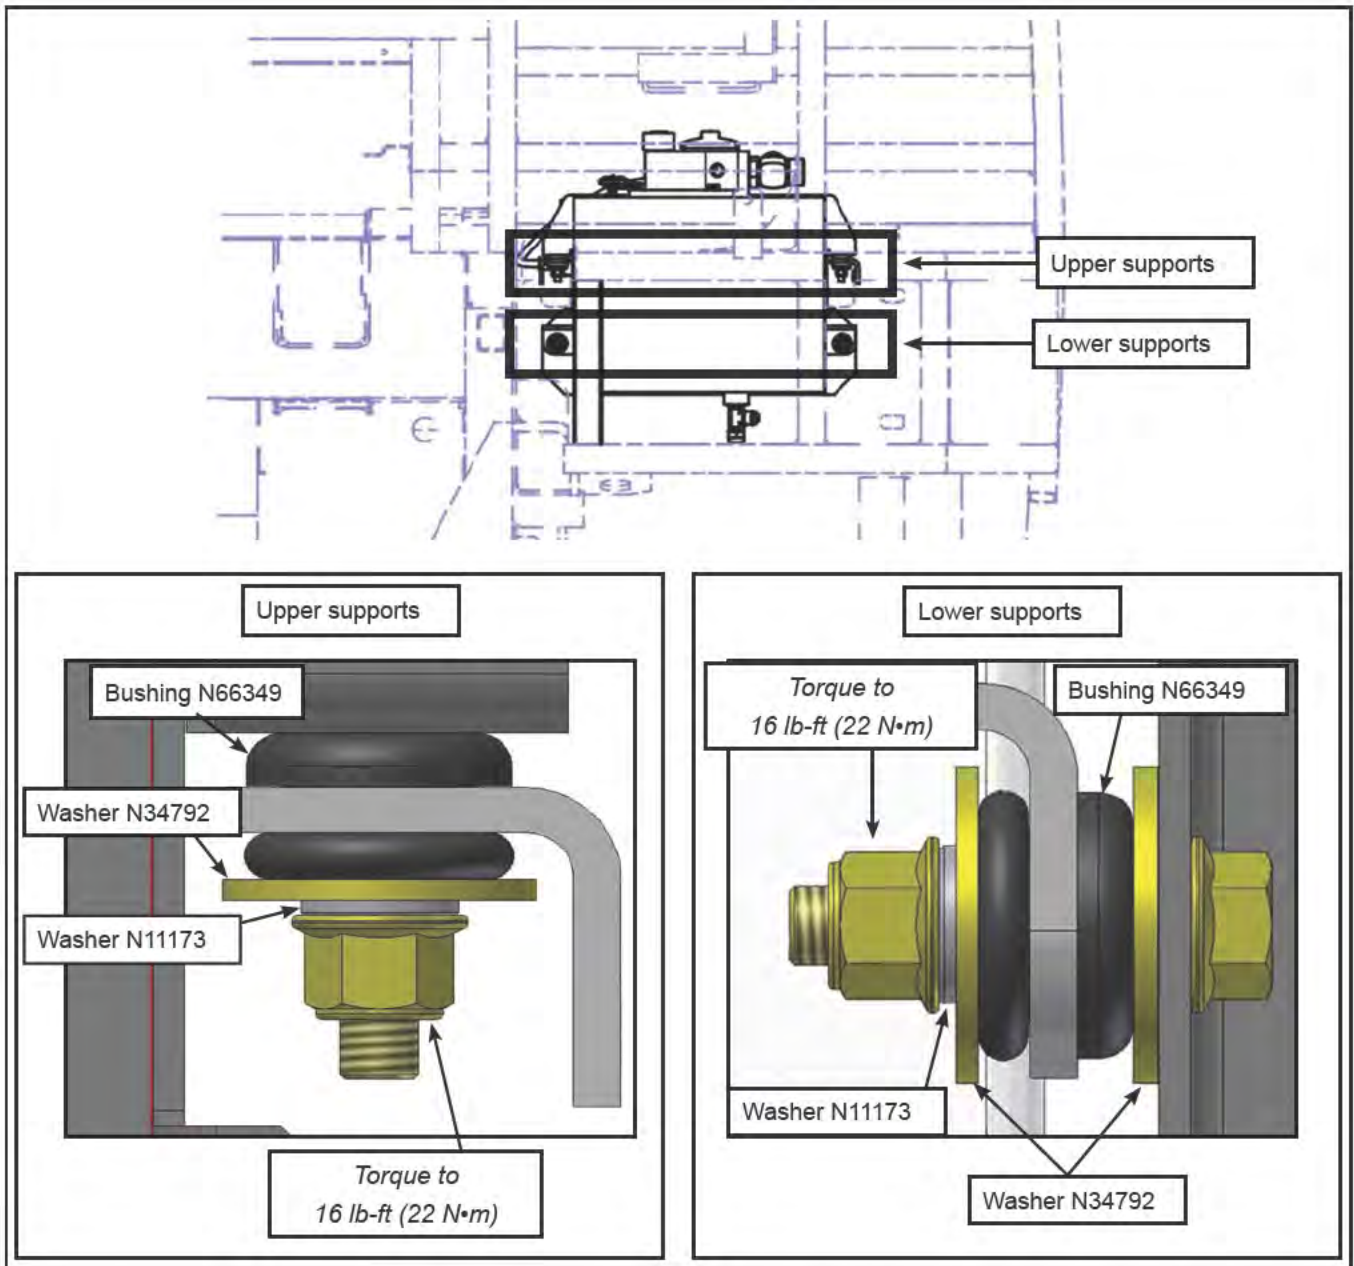

Figure 19 - Hydraulic Tank Anchor Hardware
- 1.16. With all 4 mounting brackets modified, proceed to re-assemble the hydraulic tank using new N66349 bushings and new n44888 M8 nuts. Torque to 16 lb-ft (22 N•m) and apply anti-tamper seal. See Figure 19.